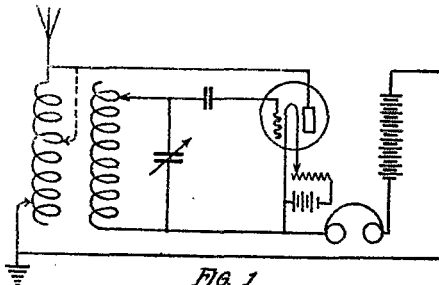

FIG. 1
One form of the cell is shown in Fig. 1. The glass bulb contains a platinum ring on an arm, as an anode (A), and one half of the bulb has been silvered, making a hemi-spherical mirror. The tube is highly exhausted on a mercury pump, and then a small quantity of a pure alkali metal (sodium, potassium, etc.) which has been included in a small well in the tube (B) is carefully distilled onto the silver mirror. This is accomplished by having a heating coil which heats all the glass above the condensation temperature of the alkali, except that portion where the metal is to be deposited, which in this case is of course the silver mirror. That portion of the cell is kept cold by means of a water bath in order to hasten the condensation of the metal. The most sensitive cells are those in which the metal has been deposited on
THERE seems no end to innovations in undamped circuits. In Figure 1 is presented an idea for an oscillating hookup which may be employed to advantage by those of our readers who possess "Jumbo"